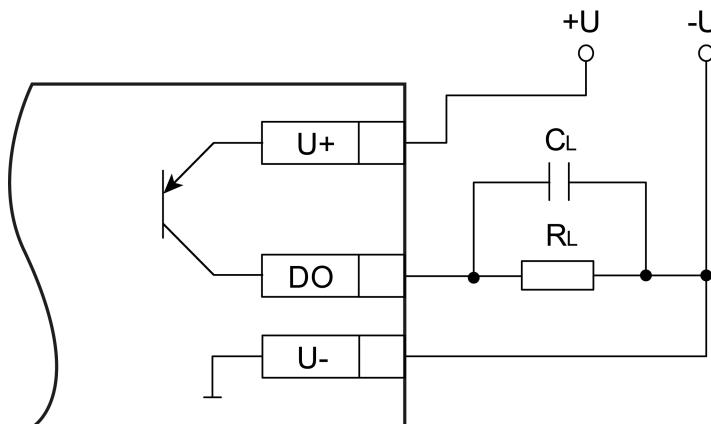

Fig. 4.2 Output wiring in high-side switching mode
- high-side switch (*Fig. 4.2*) — for switching loads with lower capacitance and higher current